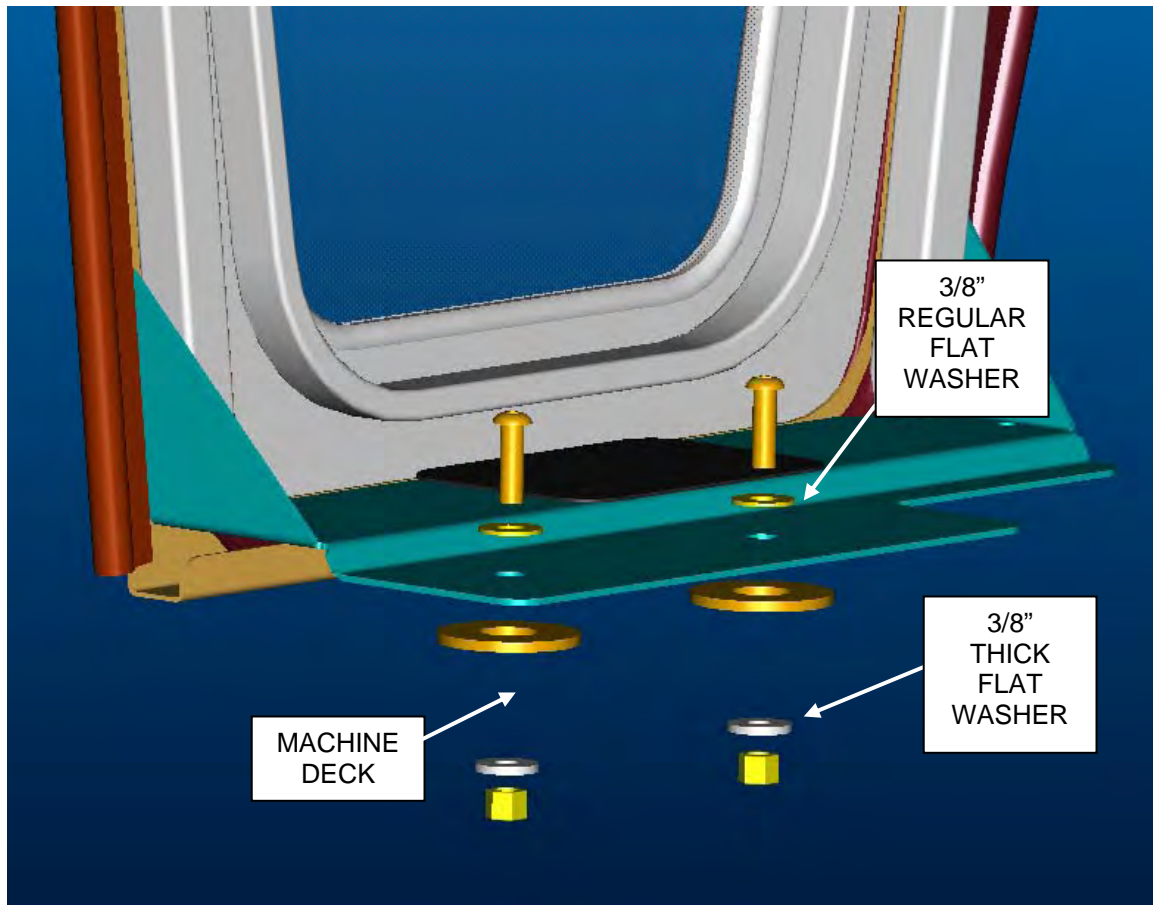

Figure 3
5. Locate the left side frame 2-15999 and right side frame 2-15998. Set each of the side frames onto their respective sides. Align the (2) two holes in each side frame with the (2) two holes in the GATOR floor. Align with the holes in the rear panel mount area.
6. Loosely secure each side frame to the GATOR floor with (2) two 3/8" x 1-1/4" button head cap screws, (4) four 3/8" flat washers, (4) 3/8" extra thick flat washers and (4) four 3/8" lock nuts. The extra thick flat washers are used on the bottom of the GATOR platform. See Figure 3.
13. Tighten the floor deck 3/8" fasteners in Figure 3. Torque to 33 lb. ft. (45 N*m).